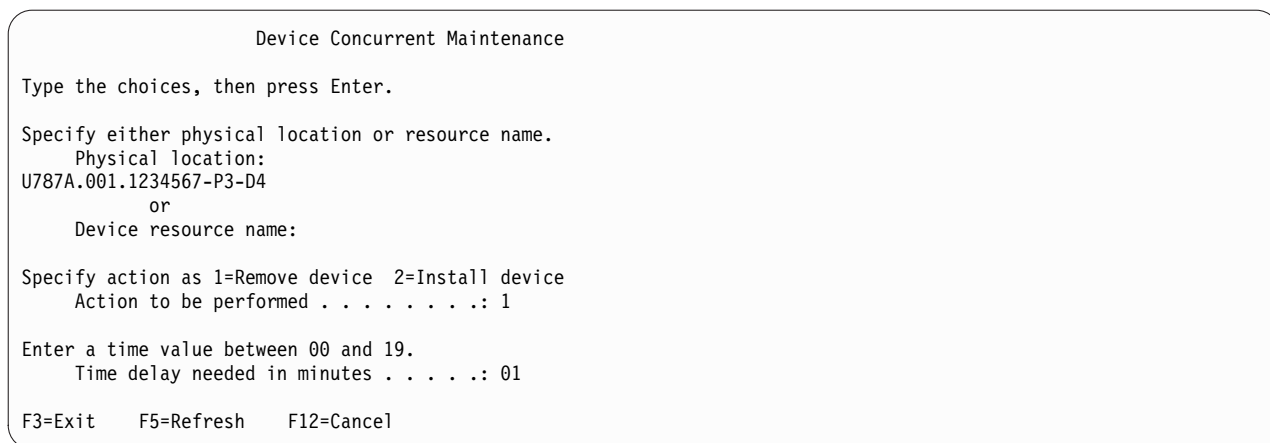

Figure 39. Example Device Concurrent Maintenance display
12. From the Hardware Service Manager, navigate to **Select Device Concurrent Maintenance** option. Press Enter. The Device Concurrent Maintenance display is shown, as shown in the Figure 39.